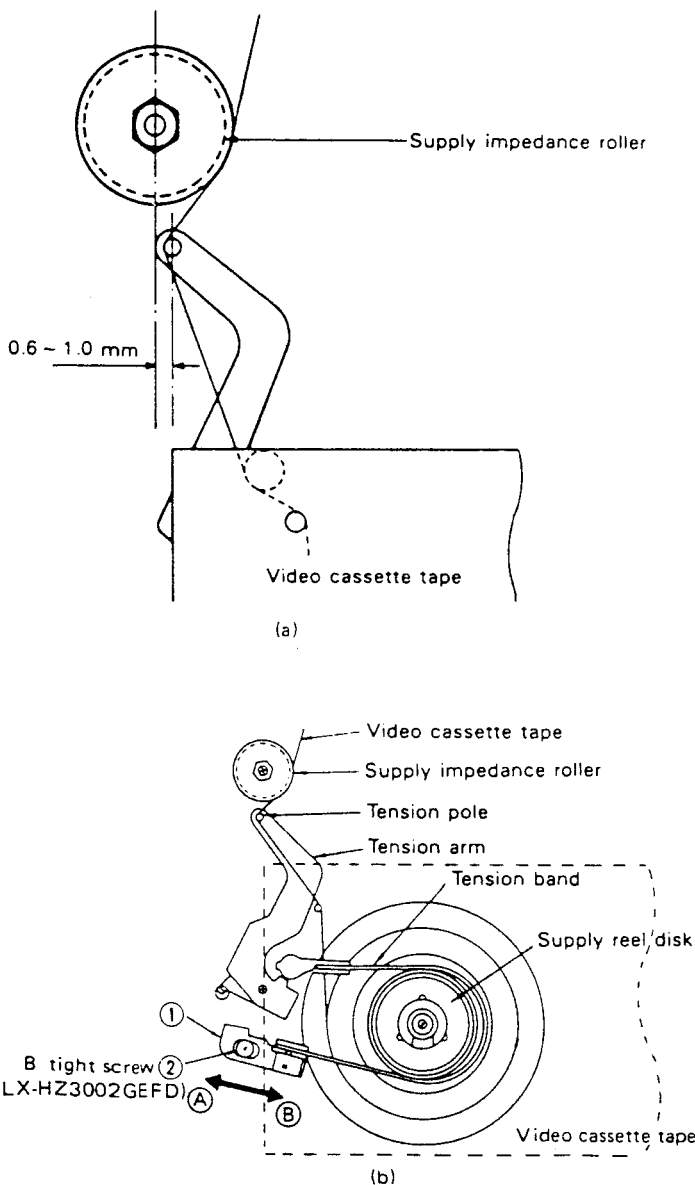

Figure 1-11.
1. If the tension pole is less than 0.6mm to the right of the supply impedance roller's center, shift the tension band control angle ① in the direction of arrow ➡ A in Fig. 1-11(b), and tighten the screw ②.
2. If the tension pole is more than 1.0mm to the right of the supply impedance roller's center, shift the tension band control angle ① in the direction of arrow ➡ B in Fig. 1-11(b), and tighten the screw ②.